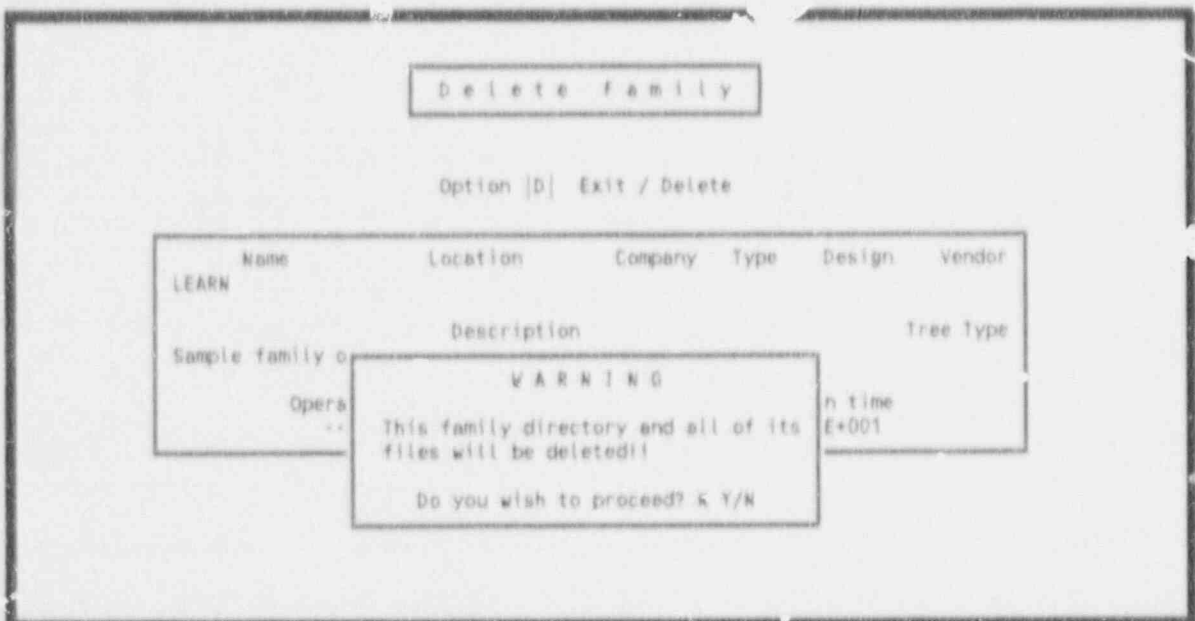

Figure 172. Warning screen for a family delete.
9.2.4.2 Delete. This option verifies the delete family request. To invoke this option, type <D> in the option field and press <Enter>. A warning screen is superimposed over the Delete Family screen allowing you to cancel the deletion process (Figure 172). Enter a <Y> to delete the family or an <N> to terminate the deletion process. If you respond with a <Y>, the message **Deletion completed** will be displayed at the bottom of the screen.